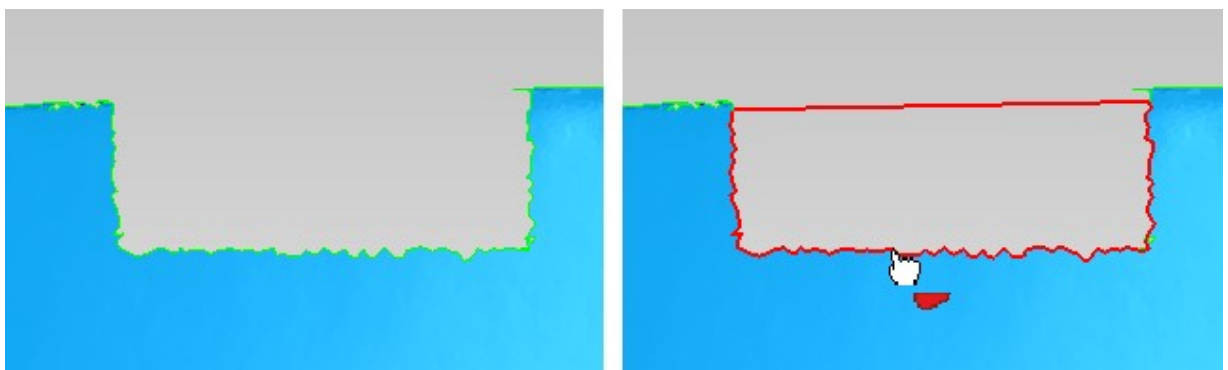

Figure 90
- **Select** the top left corner for the **1ST point** and the top right corner as the **2ND point** to create the boundary shown in **Figure 90**.